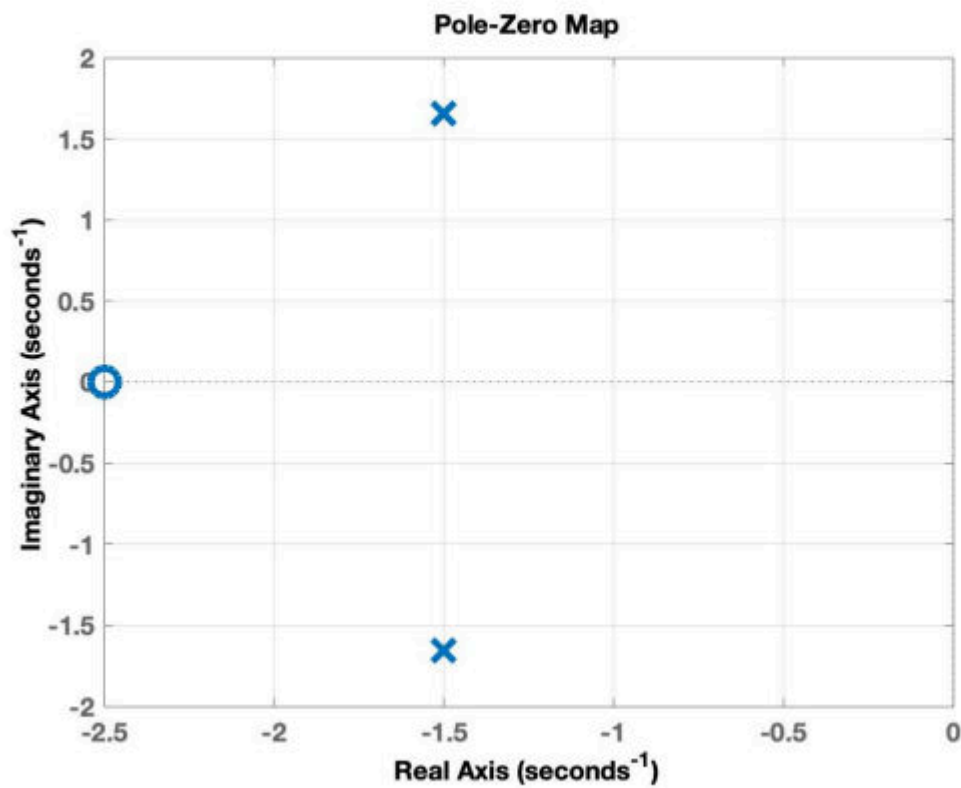

Figure 3: Poles/zeros
3. Q3. A system has poles and zeros as shown in Fig. 3 (the circle marks the zero, the cross marks the pole). Which is the corresponding Bode plot? (1 Point)